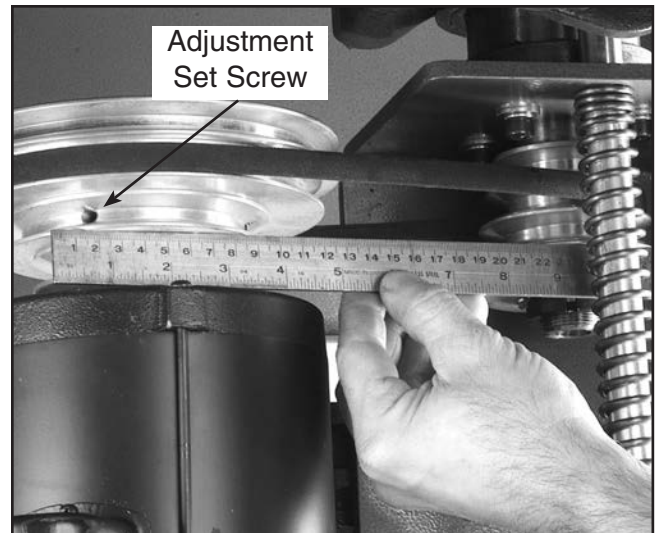

Figure 24. Inspecting pulley alignment.
3. Check the alignment with a straightedge. If the pulleys are in alignment, the straightedge should touch two sides of each pulley evenly as in **Figure 24**.
8. You can also make small adjustments in the motor pulley alignment by raising or lowering it along the motor shaft. To do this, loosen the two set screws (one is shown in **Figure 24**) which are in the lowest groove of the motor pulley and move the pulley into position. Tighten the set screws when the alignment is satisfactory.